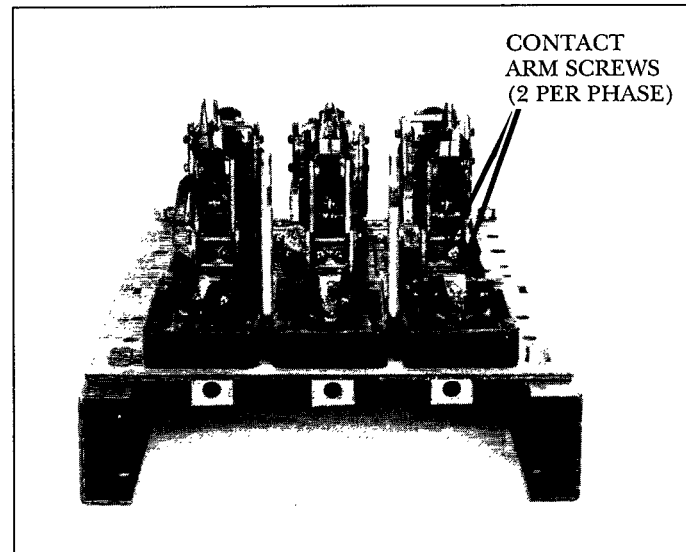

Fig. 6. Contact Arm Connections
Remove and discard the (2)  $\frac{1}{4}$ -20 x  $\frac{5}{8}$ " Philip's head screws per phase holding the electromechanical trip unit connections to the movable contact structure (Fig. 6).